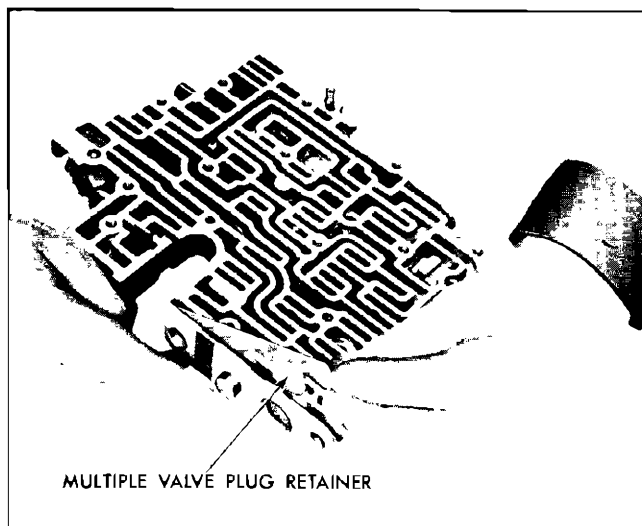

Fig. 105 Installing Multiple Valve Plug Retainer
30. Install valve bore plug in valve body compressing and partially installing multiple plug retainer. Install retainer in such a manner that only one corner of the plug is retained. This will permit the installation of the remaining valves (Fig. 105).